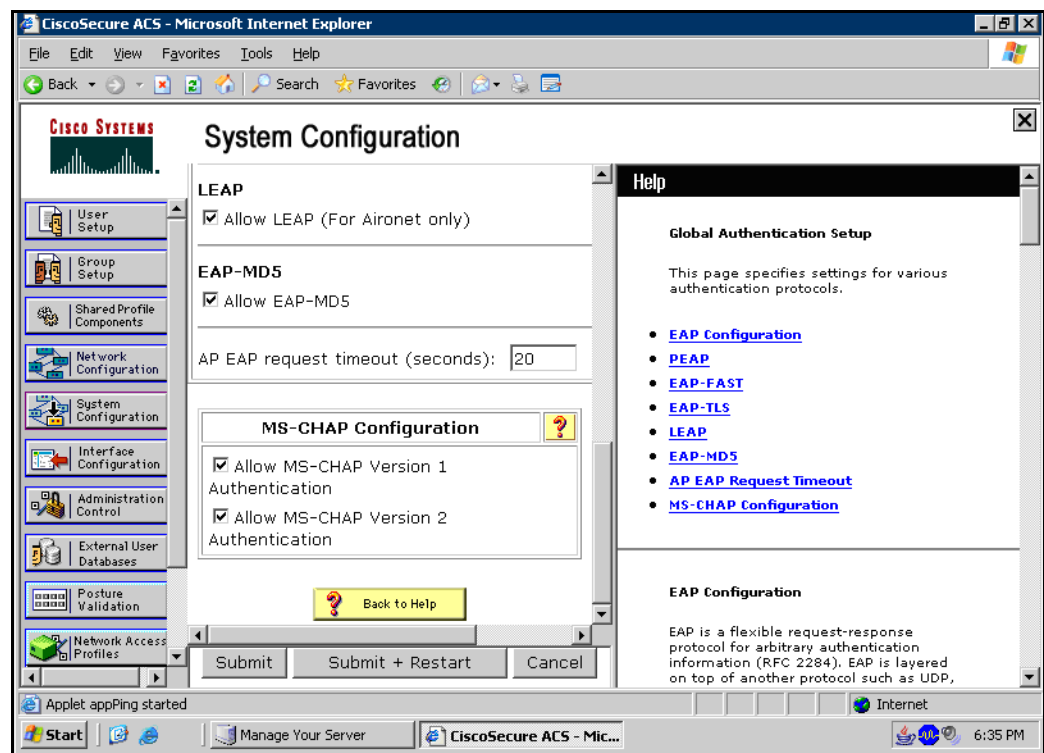

FIG. 75 EAP-LEAP sample Cisco System Security page
- Refer to FIG. 75 for an example of how a typical EAP-LEAP system configuration page should appear.